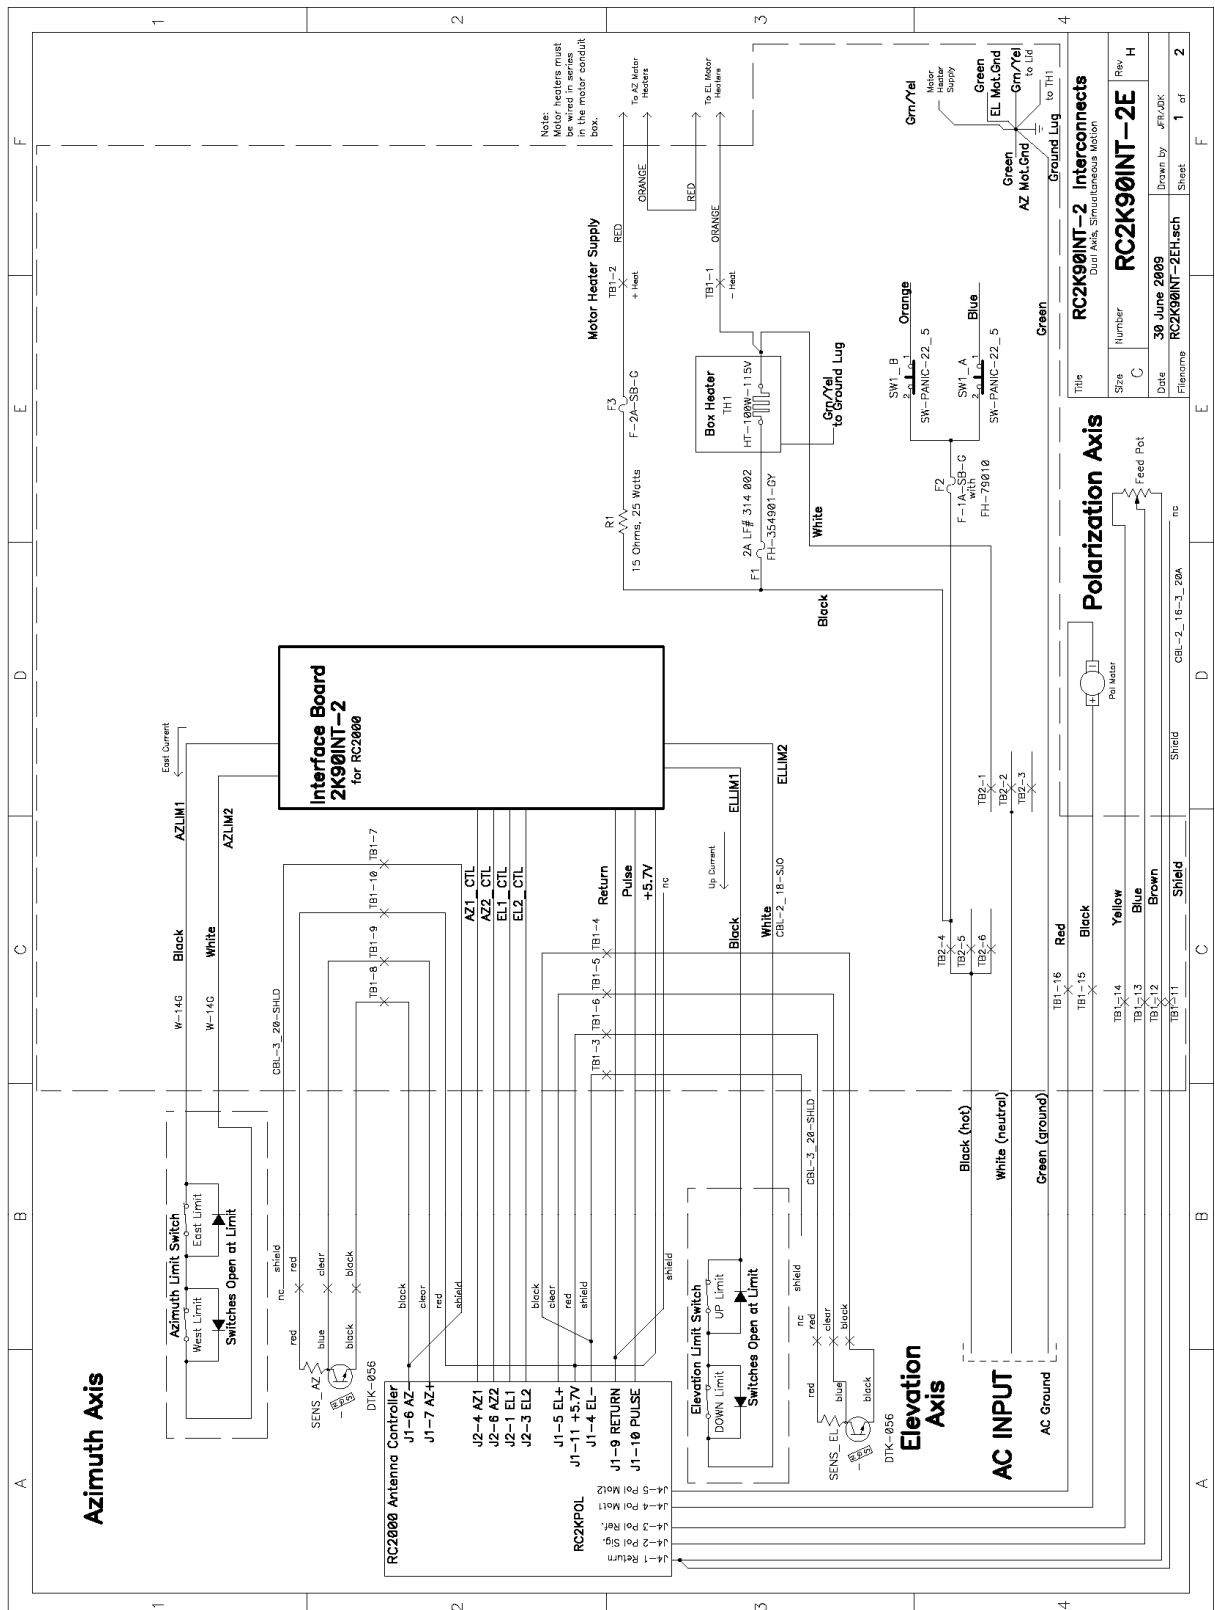

Figure E1
The installer must make the following connections (please refer to figures E1, E2 and E3).
4. Connect the sensor cables to the sensors (refer to figure E1 and E2). At the sensors, cut off the drain wire and place a piece of heat shrink tubing over the sensor cable where the insulation is cut so that the shield does not come in contact with the sensor housing. Use the 3M Scotchlok connectors to make the connections.
5. At the azimuth and elevation motor terminal boxes, connect the 16/3 cables to the motor lead wires (refer to figure E1 and E2). Use the butt type crimp connectors to make the connections. The motor input leads are labeled A1 and A2. The green wire is the motor ground wire.